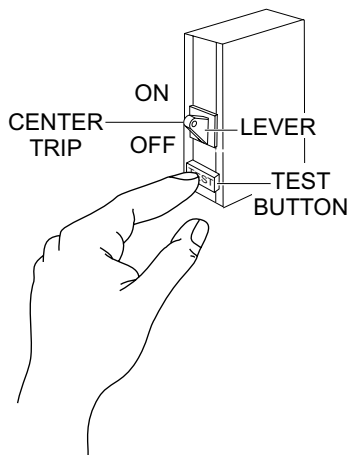

Figure 43. GFCI Breaker (Test)
4. Press the **test button** (Figure 43) on the AC circuit breaker and verify that the circuit breaker lever moves (*click*) from the **ON** position to the **center** trip position. This indicates that that the GFCI breaker is working correctly and ground faults will be detected.